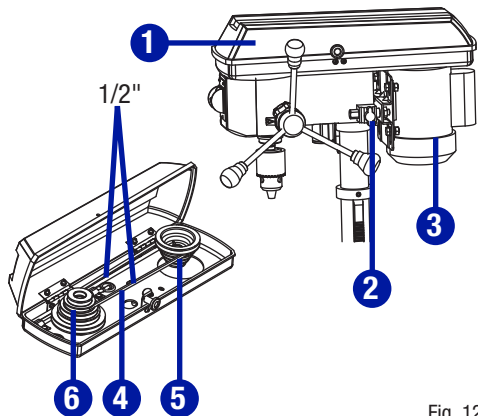

Fig. 12
INSTALL THE BELT (Fig. 12)
The belt (4) should be tight enough to prevent slippage. Correct tension is set if the belt flexes about 1/2" (13 mm) when thumb pressure is applied at the midpoint of the belt between the pulleys (Fig. 12).